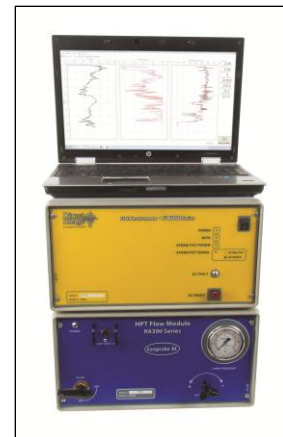

Figure 5.1: HPT Instrument Setup
1. Connect the HPT Controller (K6300), Field Instrument (FI6000) and laptop (Fig. 5.1) to an appropriate power source.